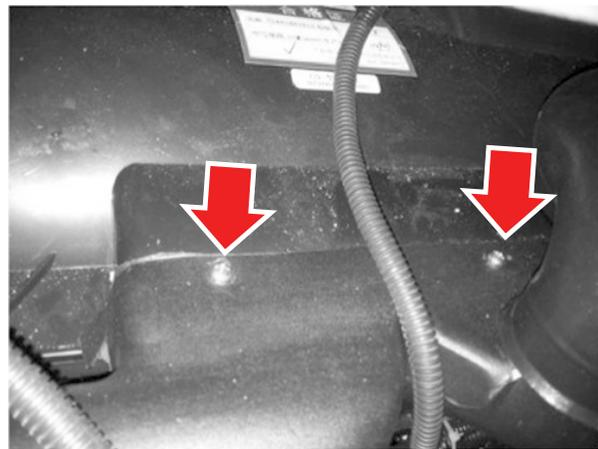

Figure 22-1
1. Remove the screws from the top and side of the central outlet on the HVAC unit and set aside for reinstallation (see Figure 22-1).